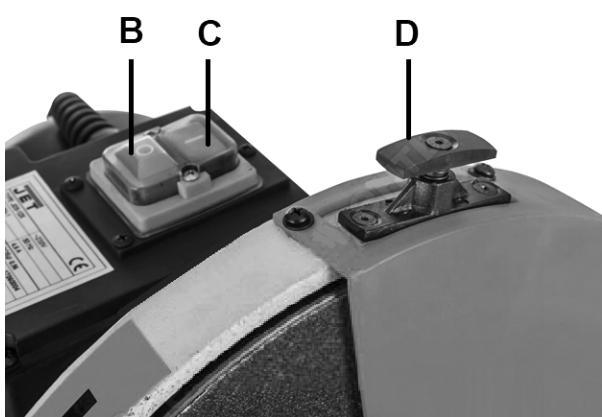

Fig 4
You can start the machine with the green ON-button (C, Fig 4). The red OFF-button (B) on the main switch stops the machine.